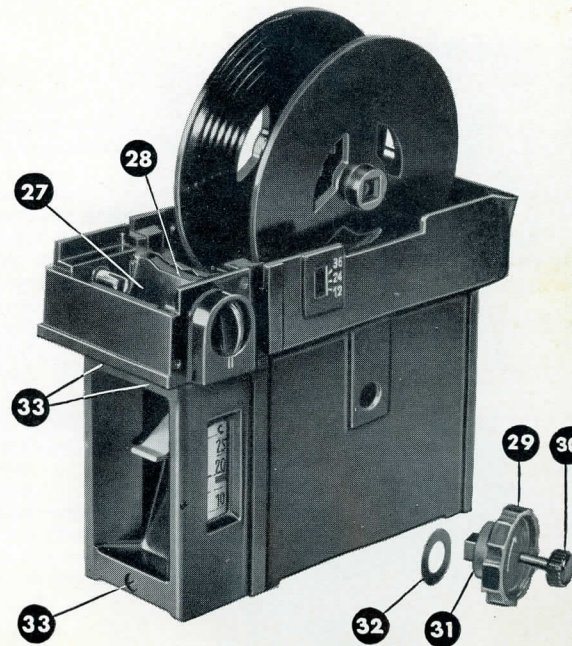

Fig. 11
After use, the Rondinax 35 U must be dismantled, and all its component parts—tank body, lid, winding knob, sealing ring, film guide, and more especially the spiral drum with its tension band—thoroughly washed in running water. If necessary, the grooves of the spiral drum should be cleaned of traces of gelatine etc. with a brush. When cleaning the body of the tank take care that no liquids penetrate into the loading chamber (27, Fig. 11) or into the guide slot of the cutting knife (28); otherwise the next film to be wound into the tank may pick up impurities. If need be, however, the knife and its guide slot can be cleaned by undoing the three screws (33, Fig. 11) on the front of the tank and lifting the loading chamber out of the tank, whereupon the knife will fall out. After cleaning, the retaining ring of the tension spring must be pressed on to the small bolt, the other bolt engaging with the driving pin of the lower part of the knife. The knife must be held in place while the loading chamber is being replaced on the tank. The two parts are then reunited with the three screws (33).